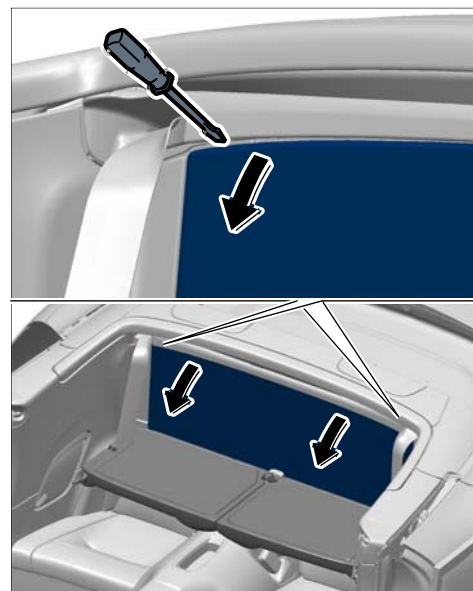

Figure 1
- 2.2 Carefully lever off trim panel for rear wall using a screwdriver and unclip it by pulling it forward ⇒ *Figure 1 -arrows-*.